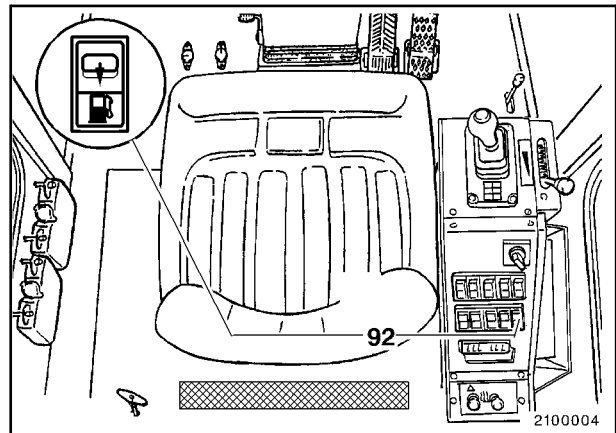

Fig. 2
- Switch on the pump with rocker button (92, Fig. 2) by